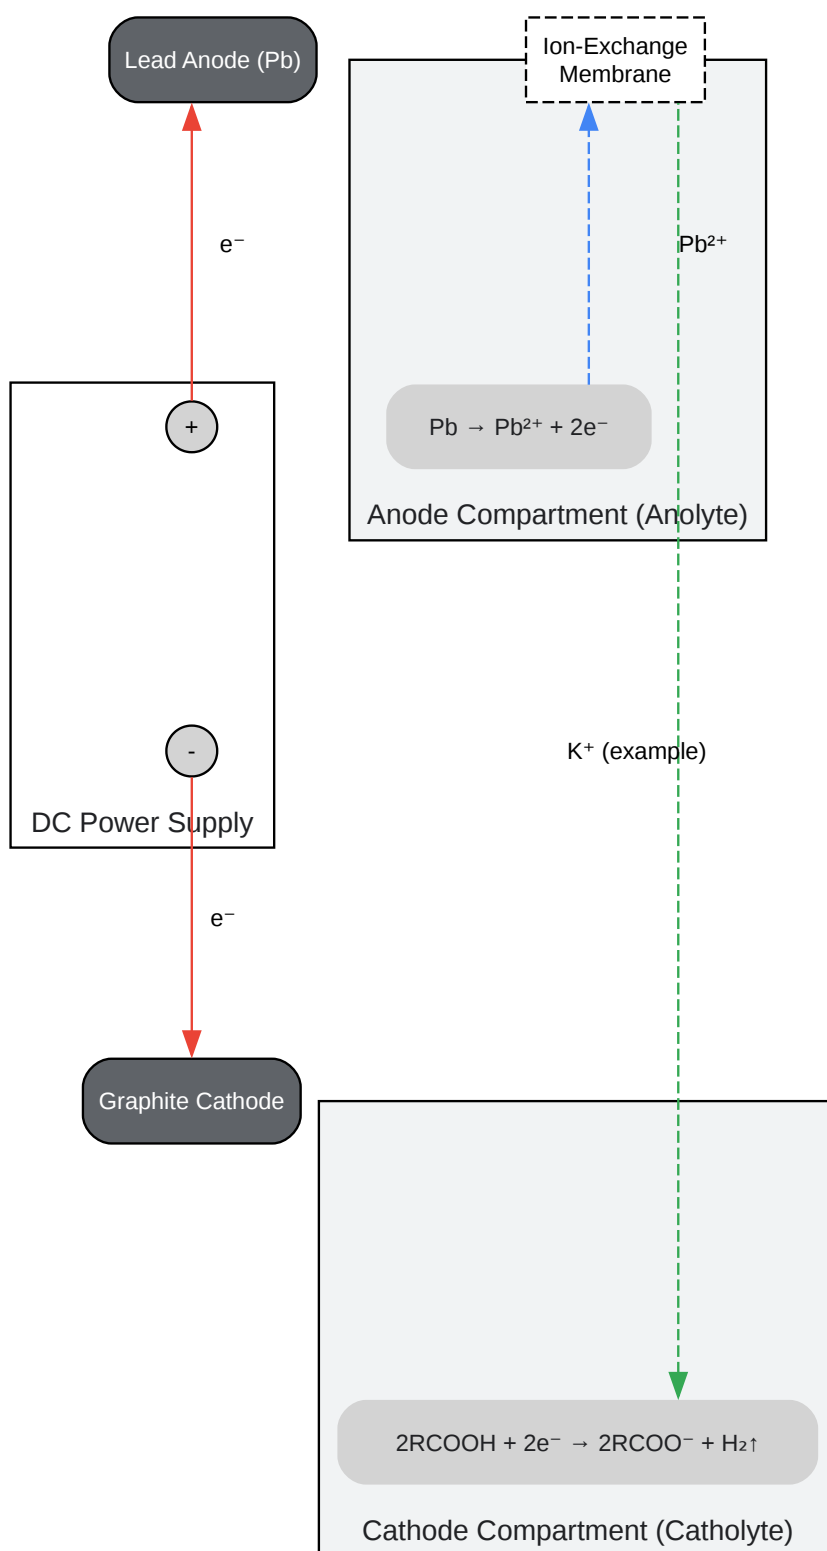

Figure 1: Electrochemical Cell for Lead(II) bis(2-ethylhexanoate) Synthesis
Caption: Figure 1: Electrochemical Cell for Lead(II) bis(2-ethylhexanoate) Synthesis